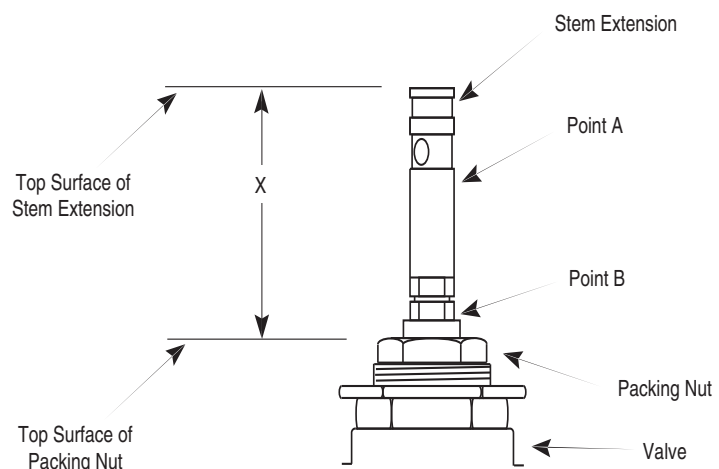

Figure-5 Height Adjustment of Combination Stem Extension and Locknut.
4. Adjust the height of the stem extension to the "x" dimension shown in Table-3 or Table-4 for the appropriate valve body. The "x" dimension is from the top of the stem extension to the top of the valve packing nut (Figure-5).